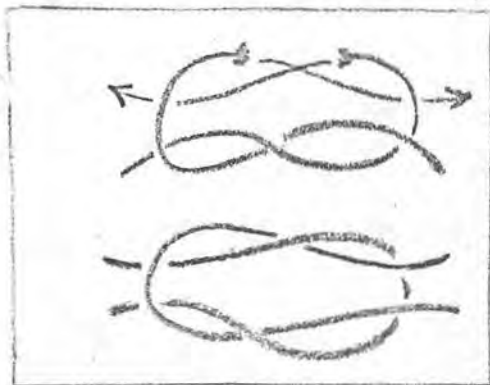

FIG 25. SQUARE KNOT
(1) Square Knot: (Figure 25). The square knot is used to tie the ends of two ropes of equal diameter together and must be secured by a half hitch on each side of the knot.